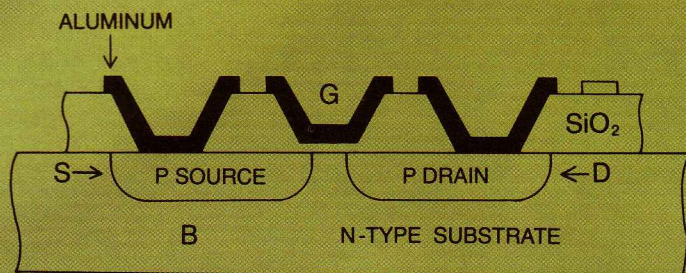

Figure 1
For the past ten years P-MOS has been the fundamental process for most of the industry. This is because it is relatively simple, reliable, well-proven and understood. Figure 1 shows a cross-section of a typical P-MOS transistor with its four functional parts: the source (S), the gate (G), the drain (D), and the substrate or body (B).